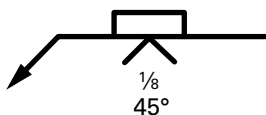

Figure 5
13. In the weld symbol shown in *Review Question Figure 5*, the numbers inside the symbol represent the \_\_\_\_.